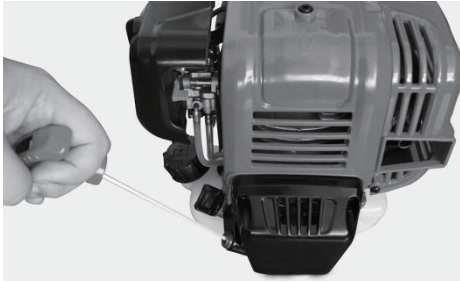

Fig.15
- 4) Slowly pull the recoil starter until you feel it engage and then pull it quickly. till it starts.(fig.15)